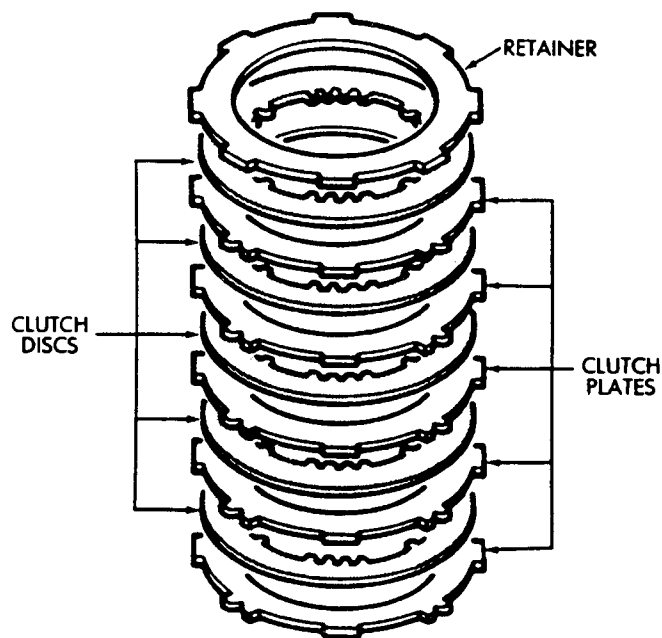
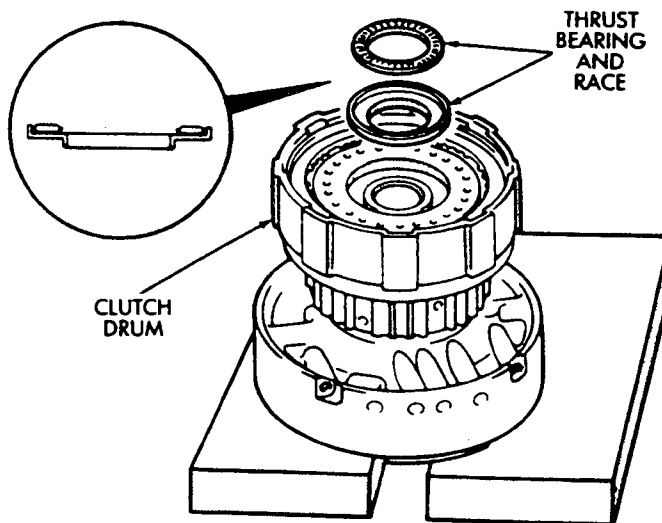
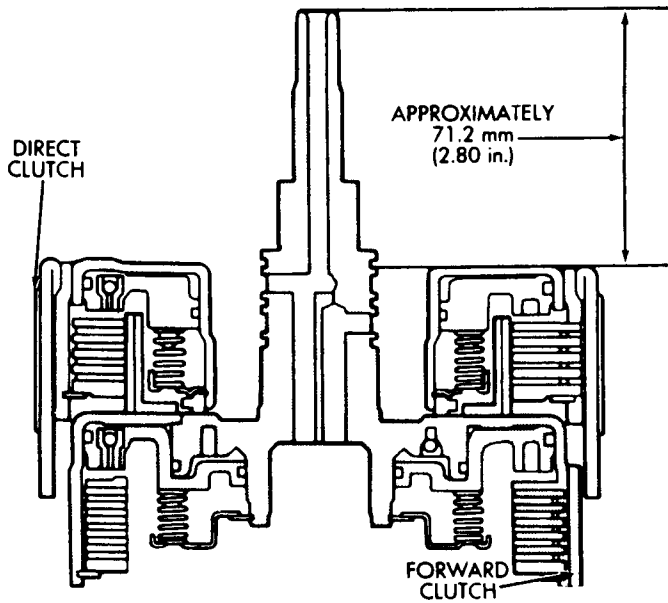

Fig. 15 Installing Forward Clutch Discs And Plates
Fig. 16 Installing Thrust Bearing And Race
Fig. 17 Checking Forward Clutch Assembled Height
(10) Install clutch discs, plates and retainer (Fig. 15). Install tabbed plate followed by disc until required number of plates and discs are installed. **Use six plates and discs in a 6-cyl. transmission and five plates and discs in a 4-cyl. transmission.**
(11) Install clutch pack snap ring.
(12) Recheck clutch piston stroke length using same method outlined at beginning of disassembly procedure. If stroke length is not within specified limits, replace clutch discs.
(13) Lubricate race and bearing with petroleum jelly and install them in clutch drum (Fig. 16). Be sure bearing rollers face up and race lip seats in drum as shown.
(14) Verify bearing and race size. Outer diameter of bearing is 46.7 mm (1.839 in). Outer diameter of race is 48.9 mm (1.925 in). Inner diameter of bearing and race is 26.0 mm (1.024 in).
(15) Mount forward clutch on direct clutch and check assembled height (Fig. 17). Height should be 70.3 to 71.5 mm (2.767 to 2.815 in).